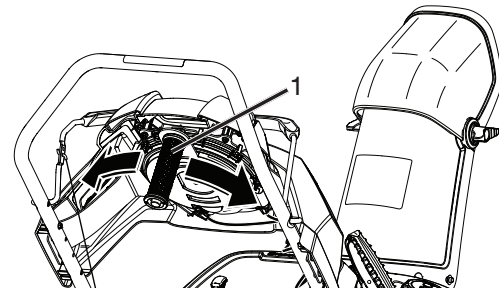

Figure 18
1. To adjust the discharge chute, rotate chute handle left or right to desired position (Figure 18).